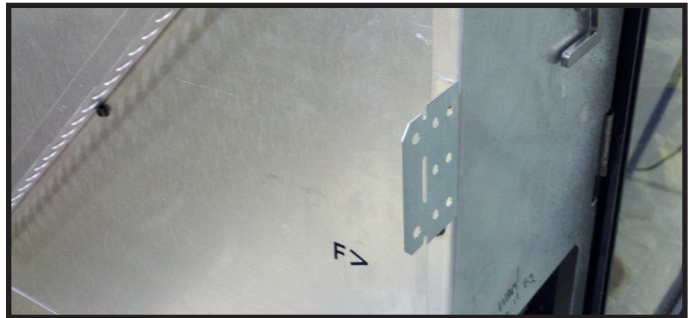

Figure 6.4 Nailing Tab Bent Out for Installation
- Bend out side nailing tabs 90 degrees. See Figure 6.4.